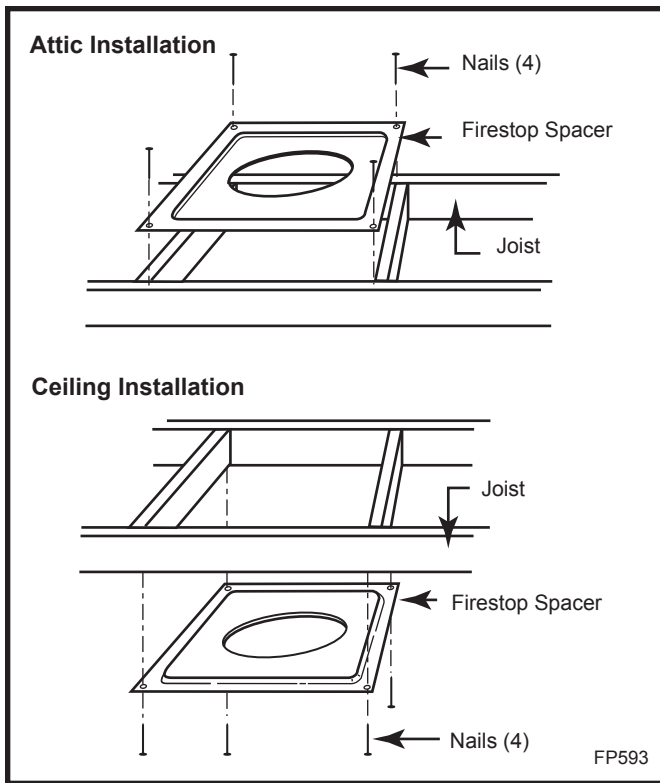

Fig. 30 Installing firestop spacer.
Measure wall thickness and cut zero clearance sleeve parts to proper length (MAXIMUM 12"/305 mm). Assemble sleeve using #8 sheet metal screws (supplied). (Fig. 21) Install firestop assembly. (Fig. 30)
6. Place firestop(s) SKFS2A or Attic Insulation Shield AIS-SK into position and secure. (Figs. 30, 31)